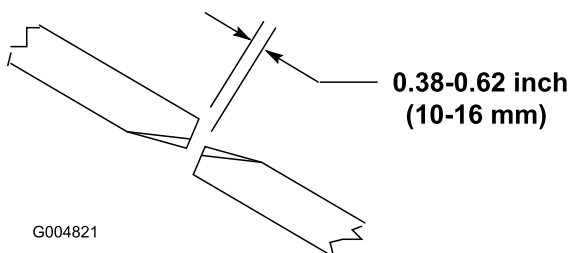

Figure 26
To ensure proper operation of the cutting unit, there must be 0.38-0.62 inch (10-16 mm) clearance between the tips of the wing and center cutting unit blades (Figure 26).
2. Rotate a center and adjoining wing blade so there blade tips are aligned. Measure distance between blade tips, distance should be approximately 0.38-0.62 inch (10-16 mm) (Figure 26).